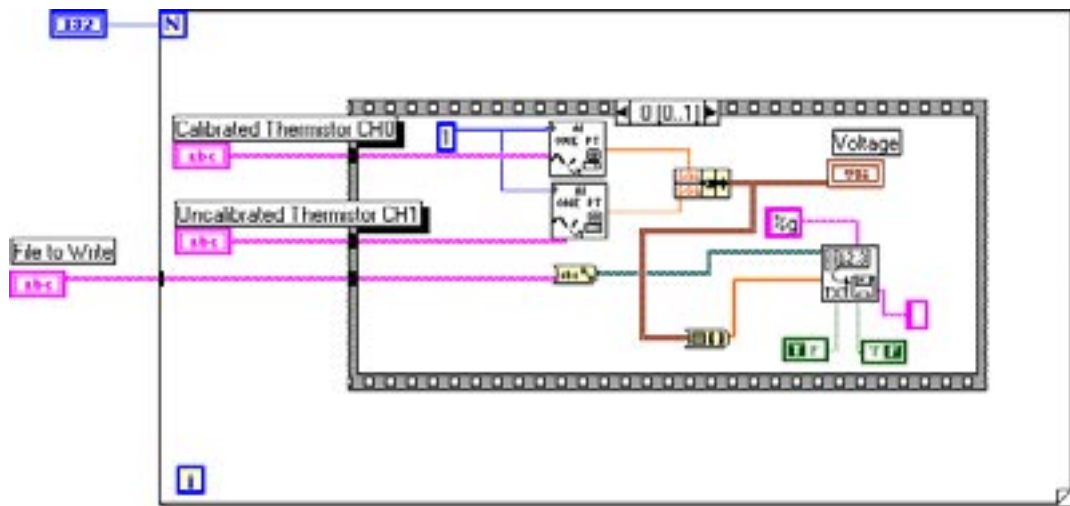
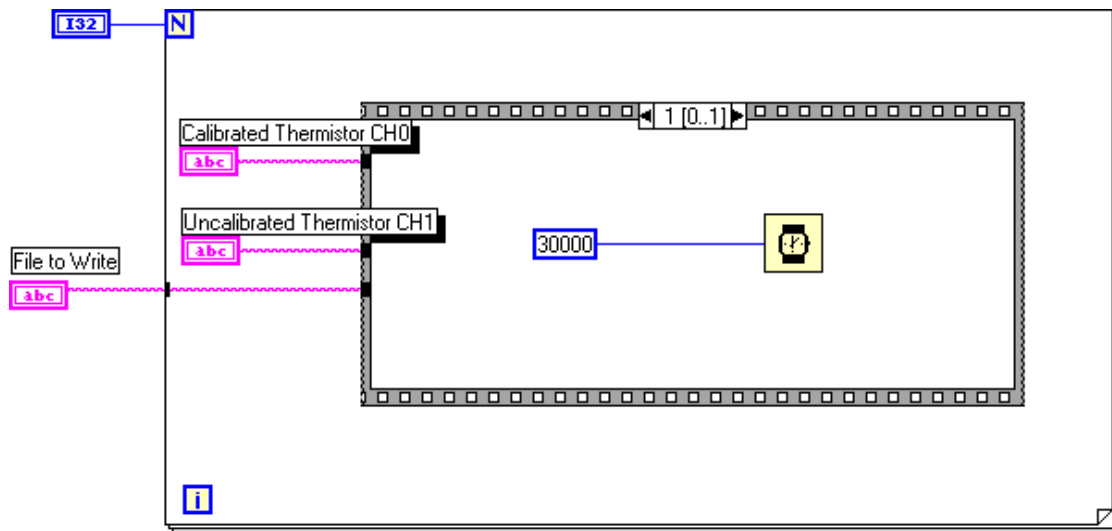

Figure 12. Sequence Frame 0 Contains the Multichannel VI Diagram
Figure 13. Sequence Frame 2 — This timer introduces a 30 second delay between simultaneous samples of both channels.
The following describes how to use a sequence placed in a VI to develop a series of actions. In general, sequence control is performed by right clicking on the sequence frame. For example, you can add sequences and number them. In Figure 12 the sequence indicates frame 0 is being displayed. The preceding frame is actually indicated as frame 1. Technically this means that we wait for 30000 milliseconds (30 seconds), then we do the data acquisition before waiting for another 30 seconds. The time delay frame (Figure 13) can be viewed by clicking on the arrows located at the top center of the sequence frame.
Figure 12 shows the zero frame of a timed sequence. It looks complicated but only two VI's are of importance here: (1) **AI One Point**, and (2) **Write to Spreadsheet File**. Essentially Figure 3 describes a procedure which reads one data point from specified channels, converts the data points from each channel into an array, and appends the data
Figure 13 shows the second frame of a timed sequence. What it does is count (in this case) 30000 milliseconds or 30 seconds. No output is used so the next frame in the sequence executes.